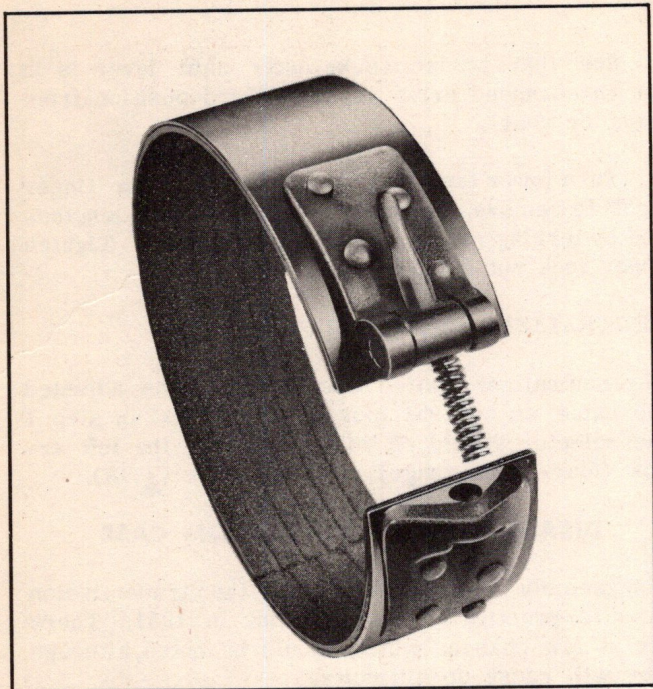

Fig. 10 Location of Rear Band Release Spring
3. After the rear servo is removed, remove rear band release spring from between struts of rear band (Fig. 10).